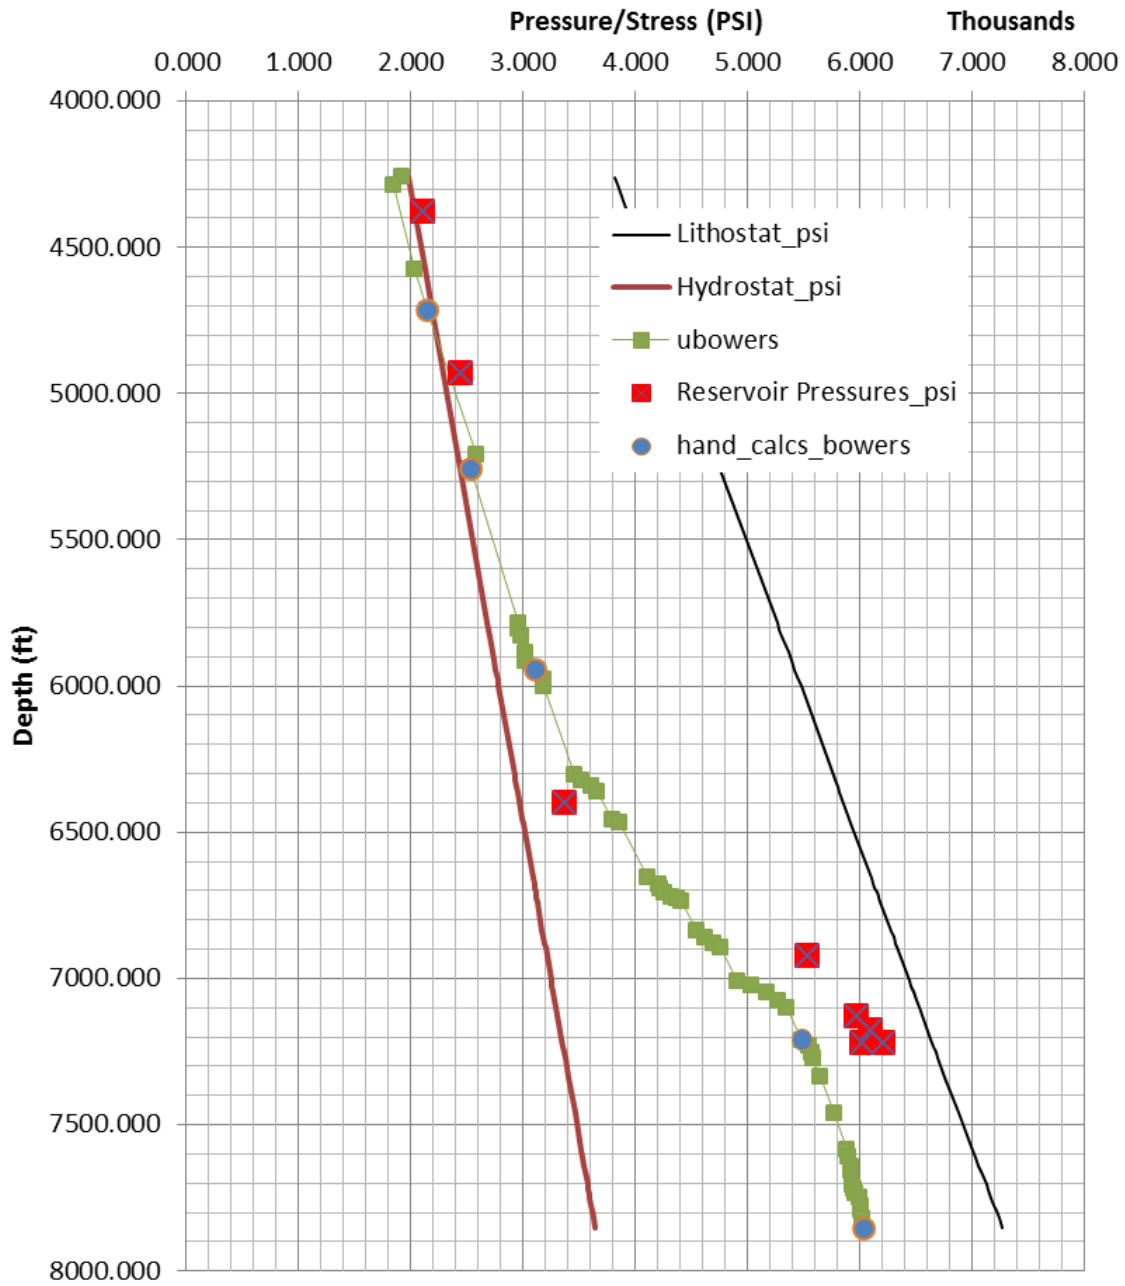
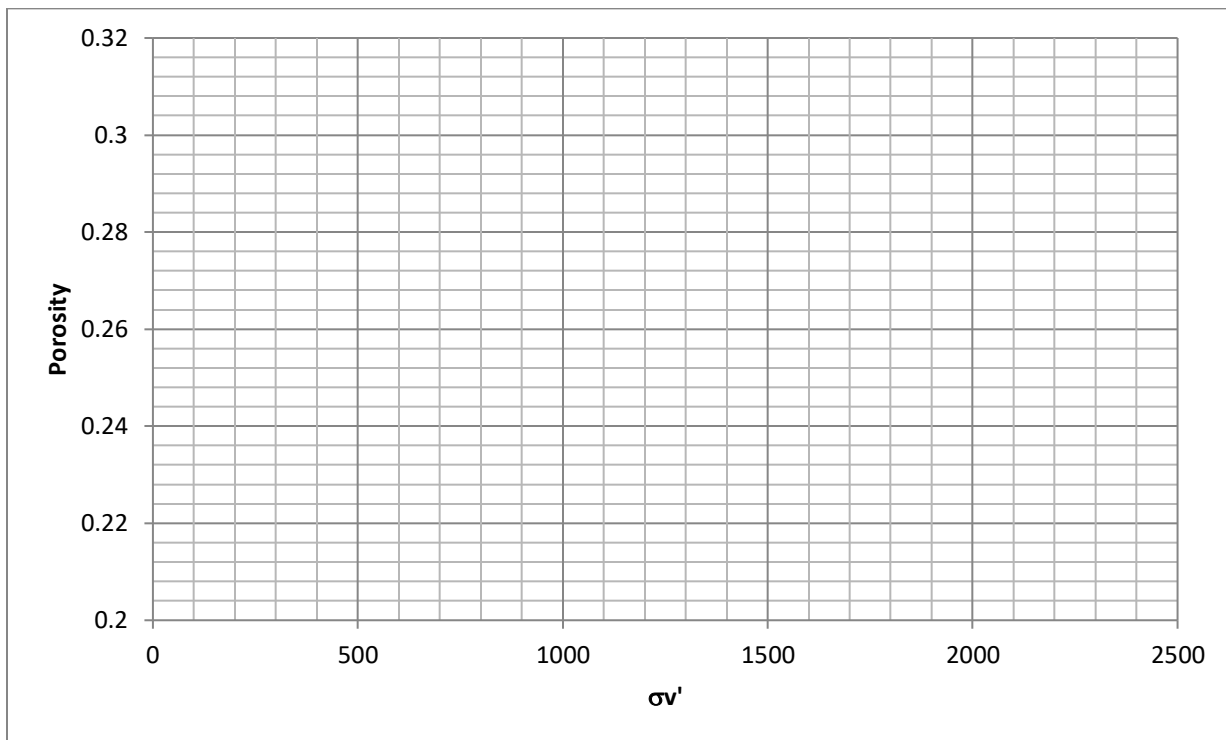

Fig. 2: Pressure prediction from Bowers technique with no unloading.
Fig. 3: Plot porosity vs. effective stress for Table 1. Label points a through e.
1. To consider the process of unloading, plot porosity (n) vs. effective stress from Table 1 label each point (a, b, c. etc). Imagine that you are a sediment package being buried along the pressure-depth profile shown in Figure 2. What is the evolution of your effective stress?
- Calculate the value of the pore pressure and fill in the table below and then plot these values in Figure 2. A spread sheet is provided for the below calculations. Please plot these values in Figures 3 and 4. Please think about how the rock is buried. Next, plot the loading history of the material predicted by this model. Points above 6000 feet should lie on the original compression line and points below 6000 feet should lie on the unloaded line.